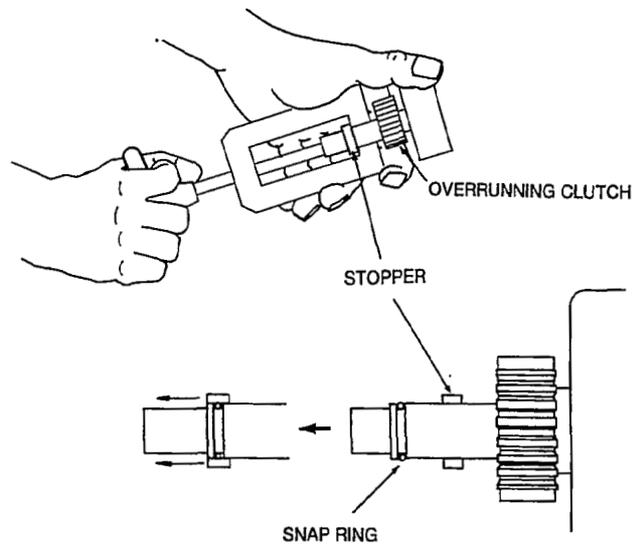

FIGURE 4. INSTALLING STOPPER
3. Pull stopper all the way over snap ring (Figure 4). It may be necessary to tap snap ring into groove with a punch while maintaining tension on stopper.